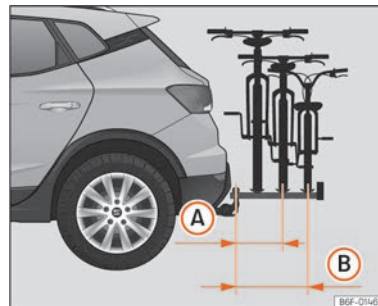

Fig. 153 Schematic representation of the maximum load overhang of a bicycle rack for two or three bicycles.
- (A)** With up to 55 kg load capacity: 500 mm (approx. 19.7 in)
- (B)** With 75 kg load capacity: 700 mm (approx. 27.6 in)
The maximum overhang shall not exceed 500 mm from the centre of the ball head to the centre of the rail of the last support >>> **Fig. 153 (A)** for two-bicycle racks. In the case of three-bicycle racks, the overhang must not exceed 700 mm >>> **Fig. 153 (B)**.